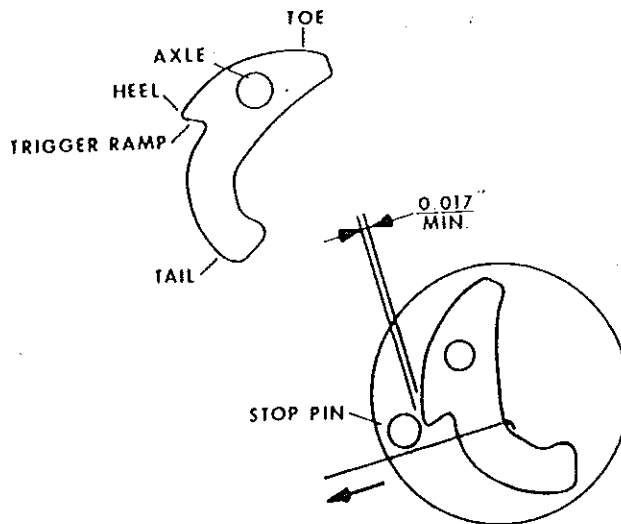

Figure 605. Checking Flyweight to Stop Pin Clearance
(1) Bend end of a stiff piece of wire (such as a coat hanger wire) into a right angle, 1/8 inch long maximum.
(2) Position impulse coupling so that heel of flyweight (see Figure 605) is adjacent to stop pin. Reach between cam and flyweight with bent wire, as near as possible to the stop pin, and pull outward on the flyweight as shown in figure 605.
(3) While pulling flyweight outward, insert feeler gages to measure the clearance between the heel of the flyweight and the stop pin, assuring a minimum of 0.017 inch exists.
(4) If less than 0.017 inch clearance exists, this is cause for immediate rejection of the impulse coupling cam assembly, or possibly the entire impulse coupling. Refer to GENERAL OVERHAUL, paragraph 7.2.7 for inspection procedures to determine if other impulse coupling parts are still serviceable.